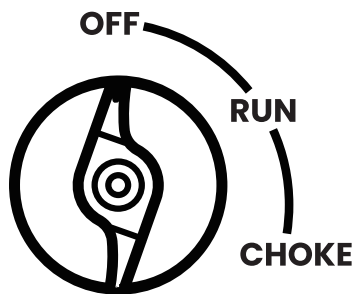

Figure 9: Turn Engine/Fuel Switch to OFF Position
3. Move the engine control switch to the OFF position (see Figure 9).
If there is an emergency and the inverter must be stopped quickly, move the engine control switch to the **OFF** position immediately (see Figure 9).